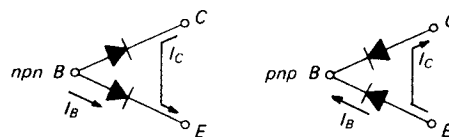

Figure 2.2. An ohmmeter's view of a transistor's terminals.
2. The base-emitter and base-collector circuits behave like diodes (Fig. 2.2). Normally the base-emitter diode is conducting and the base-collector diode is reverse-biased, i.e., the applied voltage is in the opposite direction to easy current flow.